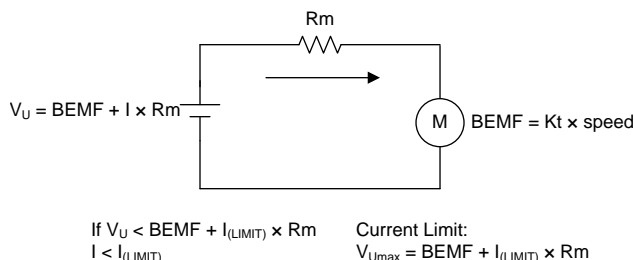

Figure 13. Current Limit
The current-limit function provides active protection for preventing damage as a result of high current. The soft current-limit does not use direct-current measurement for protection, but rather, uses the measured motor resistance (R_m) and motor velocity constant (K_t) to limit the voltage applied to the phase (U) such that the current does not exceed the limit value ($I_{(LIMIT)}$). The soft current-limit scheme is shown in Figure 13 based on the calculation in Equation 3.